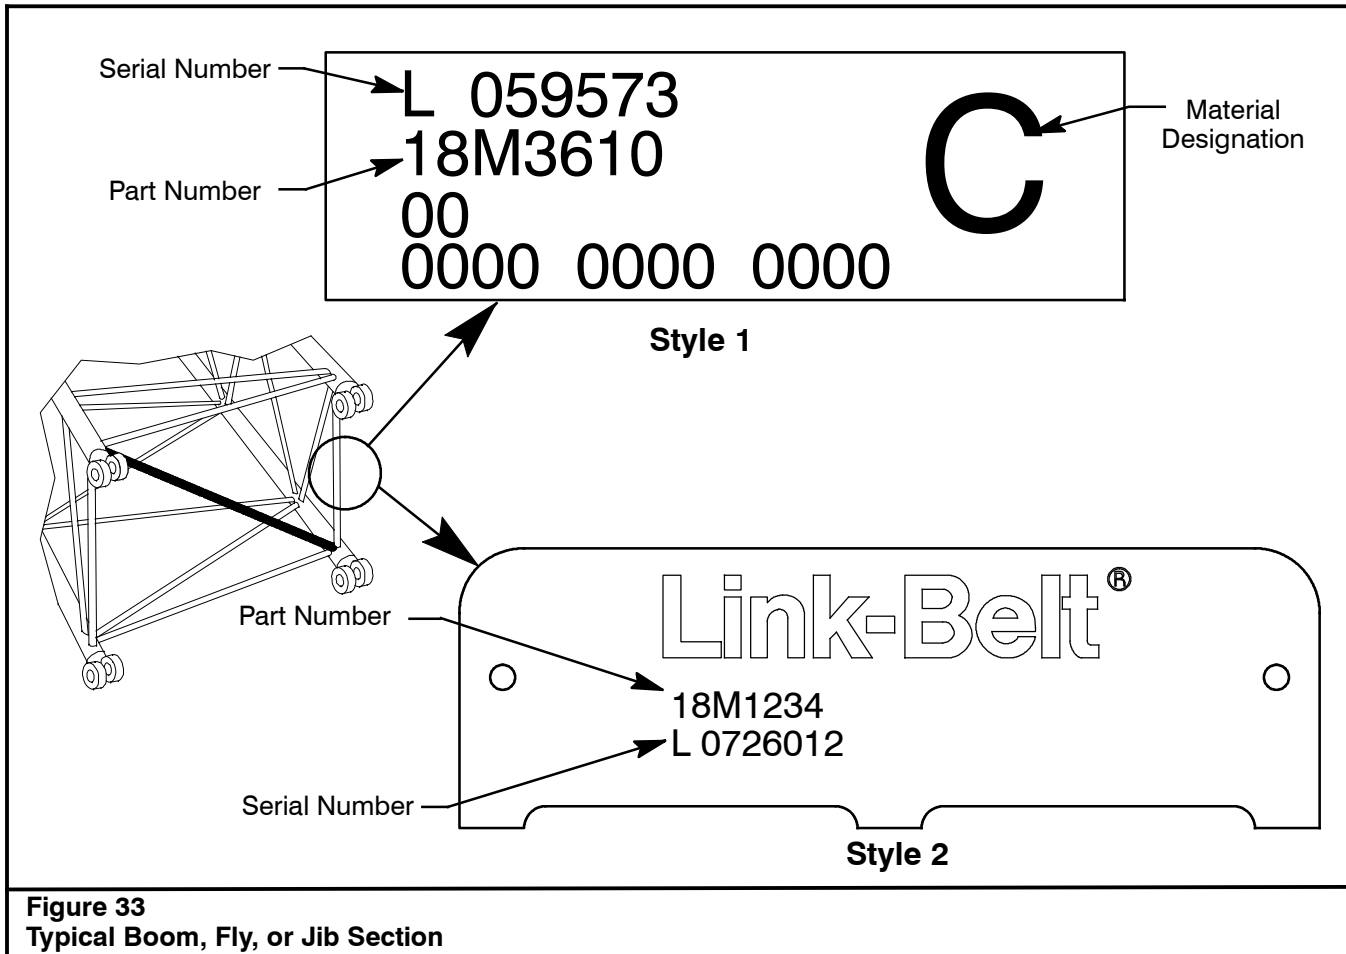

Figure 33
1. Locate the identification plate and record the serial number, part number, and chord material type. See Figure 33.